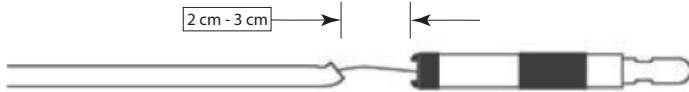

Figure 7
- c. Gently separate the proximal and distal ends of the open pusher. Then, under fluoroscopy, pull the proximal portion of the implant delivery pusher approximately 2-3 cm to confirm implant detachment per IFU (Figure 7).